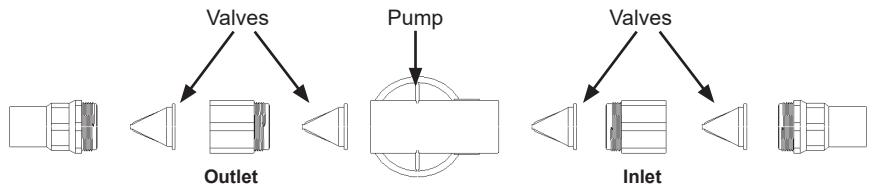

Fig. 2 Pump Head
3. When refitting ensure the valves are assembled in the correct orientation (Fig 2).